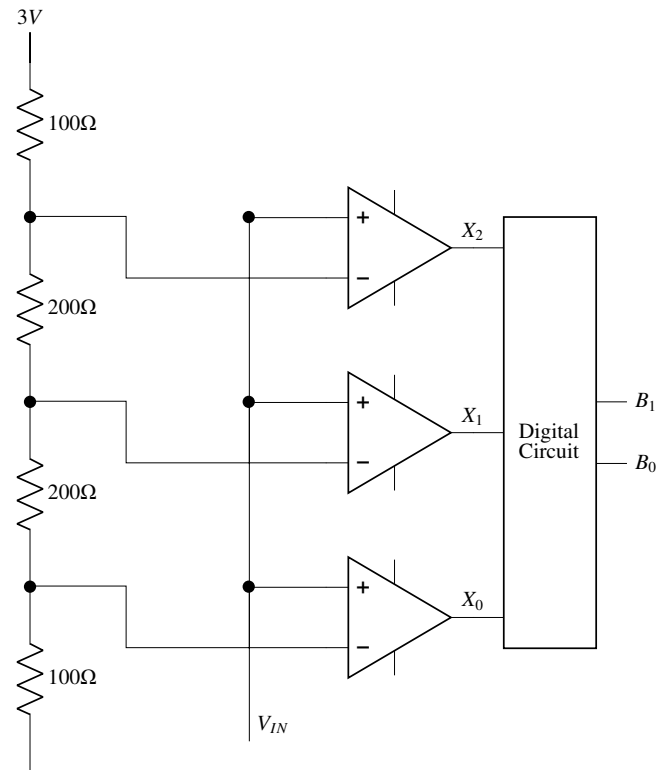

Fig. 3.34
52. A 2-bit flash Analog to Digital Converter (ADC) is given in Fig. 3.34. The input is  $0 \leq V_{IN} \leq 3$  Volts. The expression of the LSB of the output  $B_0$  as a boolean function of  $X_2, X_1$ , and  $X_0$  is (GATE EE2016 37)